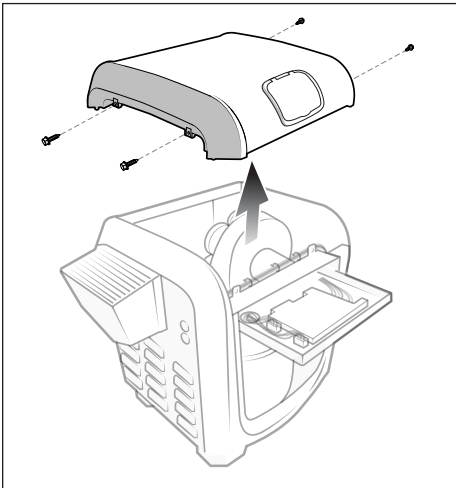

Figure 5. Remove Top Panel
- Remove the 4 screws holding the top cover in place. See *Figure 5*.
- Remove the top cover being mindful not to damage or strain the user interface wiring. See *Figure 5*.